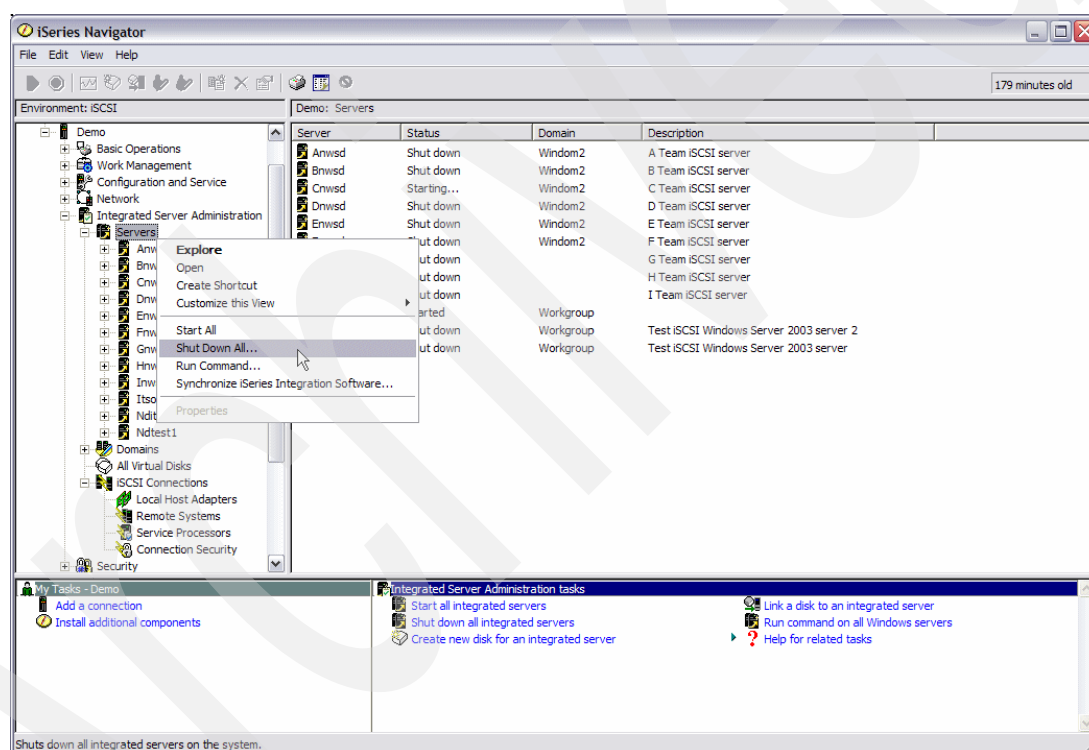

Figure 6-83 Shut Down All integrated servers
2. Right-click **Servers** and select **Shut Down All**. See Figure 6-83. Another way is to select **Shut Down all integrated servers** in the taskpad below. As soon as you click **Shut Down All**, all are shutdown, so no warning message displays.